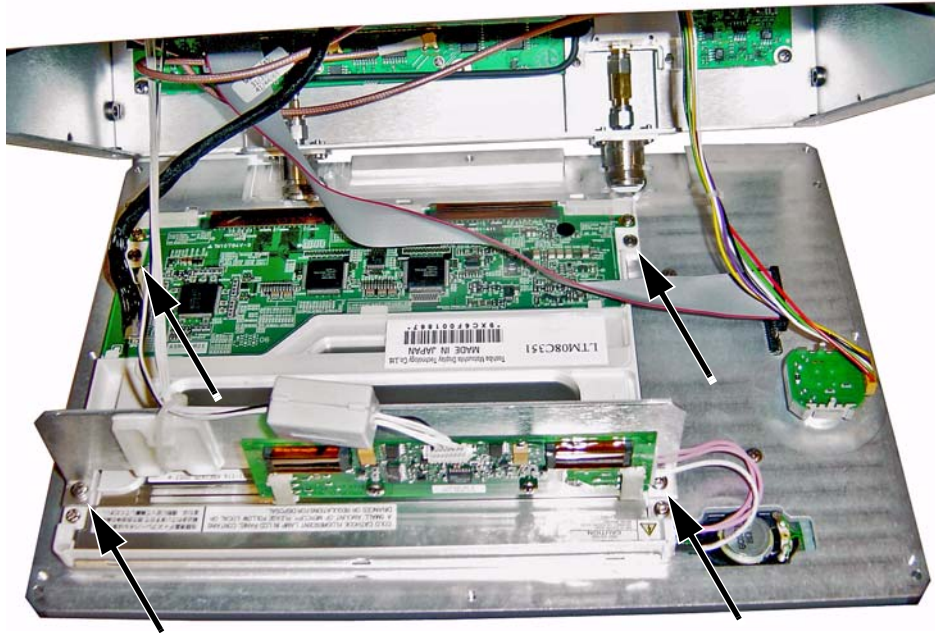

Figure 5-25. Front Panel – Interior Connections
3. With the front panel face down, remove the upper 2 screws that attach the backlight driver PCB support bracket to the front panel. These 2 screws also attach the LCD to the front panel. Lift out the support bracket with the backlight driver PCB still attached (refer to Figure 5-25).
4. Remove the 2 screws that attach the lower edge of the LCD to the front panel (refer to Figure 5-25).